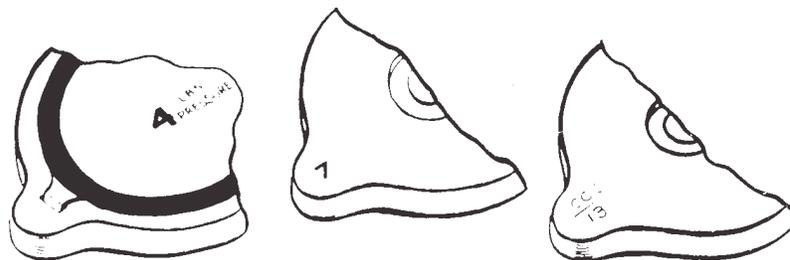

Figure 1-7. Pressure Cap Markings
(Figures 1-7 thru 1-9)**
The Pressure Cap functions as a safety valve to keep the pressure within the desired safe limits as designed by the truck manufacturer. The filler cap is stamped or otherwise marked with a figure indicating the approximate operating pressure. (See Figure 1-7).
K. TESTING THE PRESSURE CAP (Cont.) (Figures 1-7 thru 1-9)